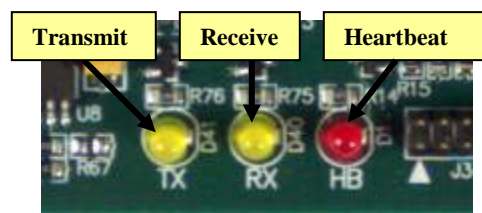

Figure 10: Status LEDs
Step 1: Check that the green LED(s) on the board are illuminated to ensure power is present to the board (Figure 10).
Step 2: Check that the Receive LED is flashing frequently showing that there is traffic on the bus and that the Transmit LED is flashing when data is being sent from the expansion board to the main controller (Figure 10).
Step 3: Check that the heartbeat LED is flashing at approximately one flash per second under normal circumstances (Figure 10).